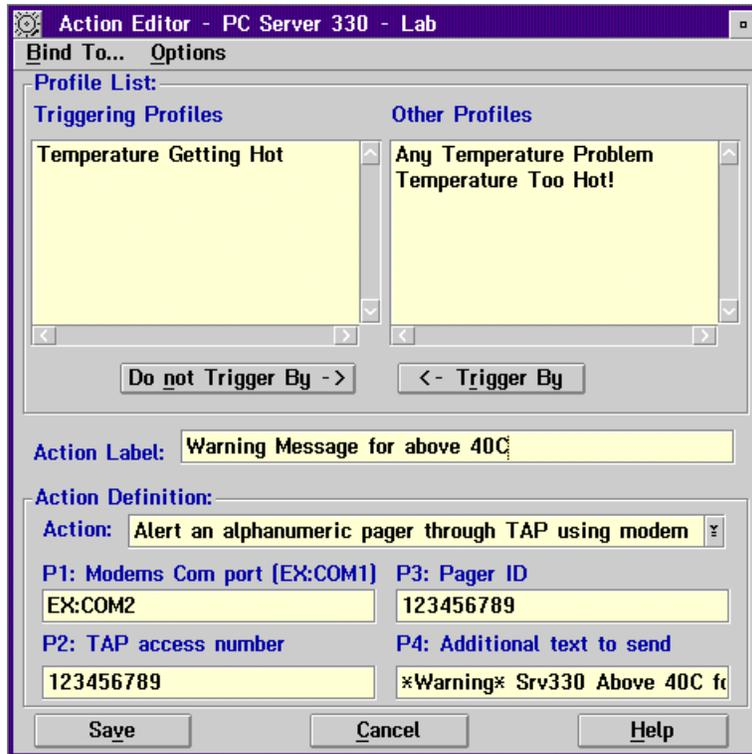

Figure 100. Profile Editor Setup for the 40°C setup
- Select the Triggering Profiles you want the action to be triggered by as per Figure 100 on page 140.
4. Set up the Triggering Profiles and Action Definition as shown in Figure 100 for the first profile.